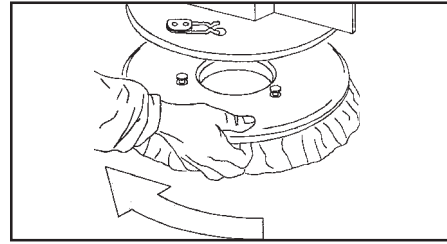

Figure 23
6. With the brush base in the up position, insert the brushes into the seat of the plate under the base until the three buttons fit into the holes of the plate (see figure 23).
7. Turn the brush so that the buttons are pushed towards the retaining springs until the brush is clamped into place. Figure 23 shows the correct direction to rotate the right side brush when installing the brush.